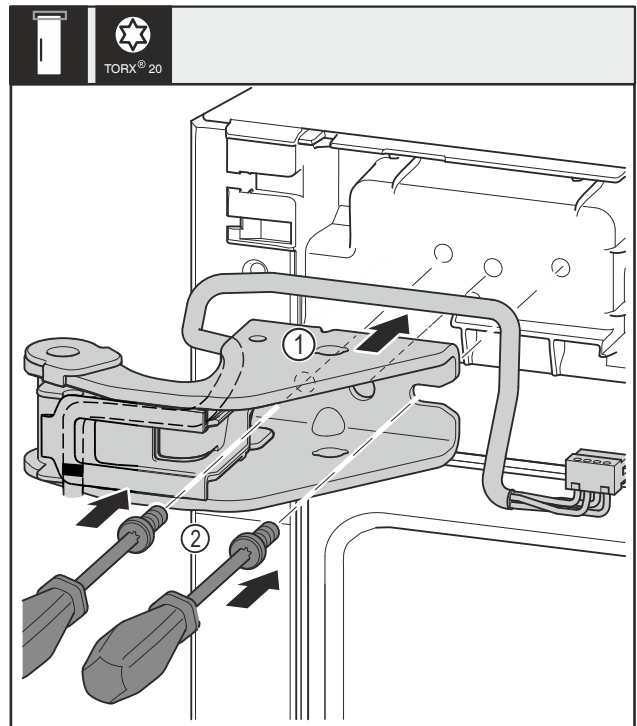

Fig. 26
- ▶ Attach the top swap bearing block Fig. 26 (1).
- ▶ Insert and tighten the screws Fig. 26 (2) with a screwdriver.